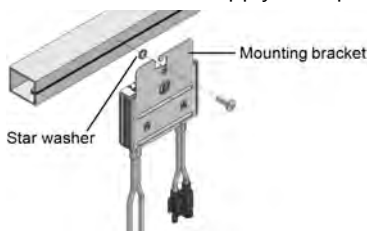

Figure 5: Power optimizer installation and grounding using a star washer
1. Determine the power optimizer mounting location and use the power optimizer mounting brackets to attach the power optimizer to the support structure (See *Figure 5*). It is recommended to mount the power optimizer in a location protected from direct sunlight. For frame-mounted power optimizers follow the instructions supplied with the optimizers, or refer to https://www.solaredge.com/sites/default/files/installing_frame_mounted_power_optimizers.pdf.